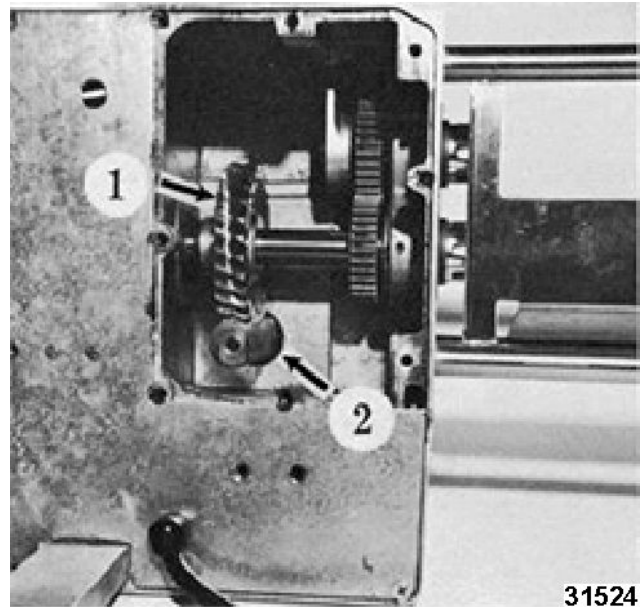

Fig. 29
- Lay the machine on its back (Fig. 29).